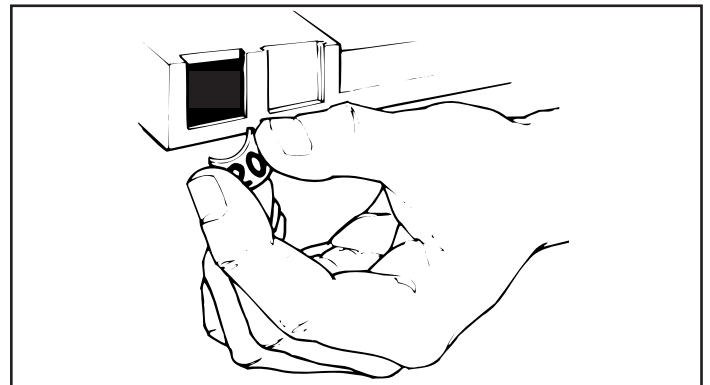

Figure 9: Installing price tabs.
**INSTALL PRICE TABS** into price tab holder for each selection. (See Figure 9)